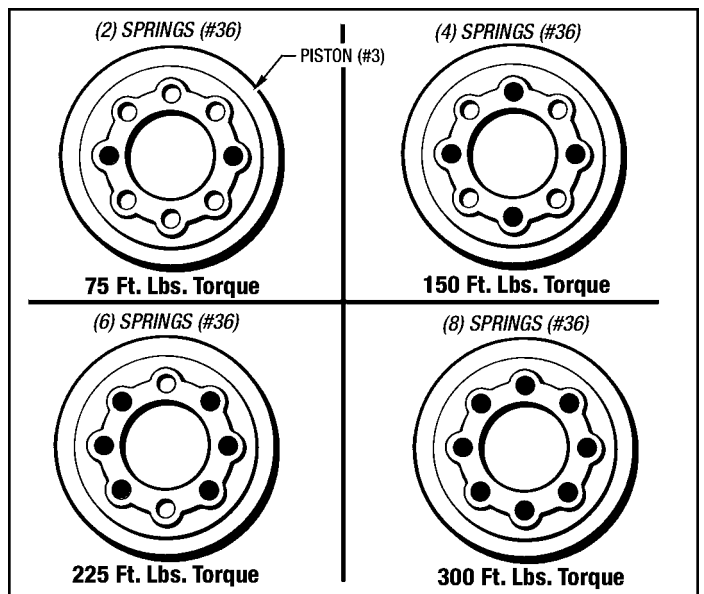
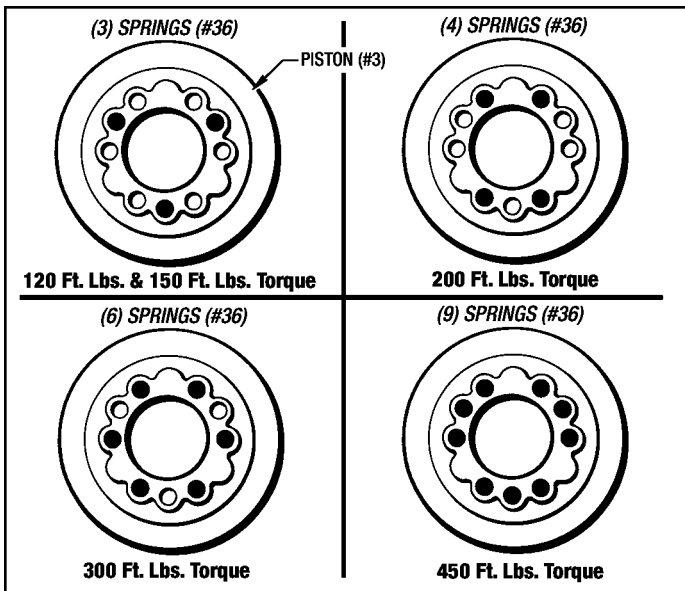

Figure 9.4 - Correct Spring Placement (MB-250 & 280)
Figure 9.5 - Correct Spring Placement (MB-320)
- Place the correct number of Springs into the spring pockets in the Housing (#8) for your required torque. See Figure 9.4 for Sizes MB-250 and MB-280 correct spring placement. See Figure 9.5 for Size MB-320.
- Lubricate the O-Ring (#30) with a little **White Grease** and place it on the Piston Retainer (#11). (See Figure 9.4)
- Attach the Piston Retainer (#11) to the Piston Housing (#10) with (8) Screws (#72) and (8) Lockwashers (#127). Tighten these (8) Screws (#72) down in an even manner to compress the Springs (#36) correctly. **Torque to 25 Lb. Ft.**